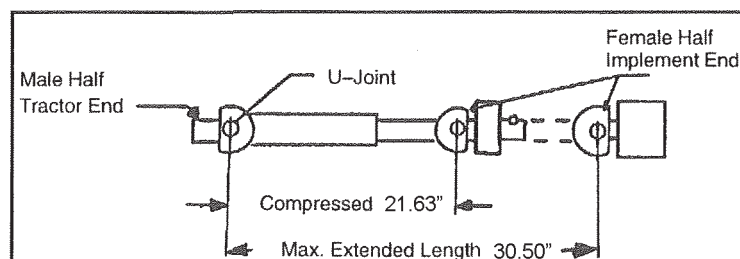

Figure 6. Driveline Dimension - 3-Pt Hitch
5. Move the unit to its highest and lowest working position and measure this dimension again. The unit's shaft can telescope (see Figure 6) before it has been shortened.